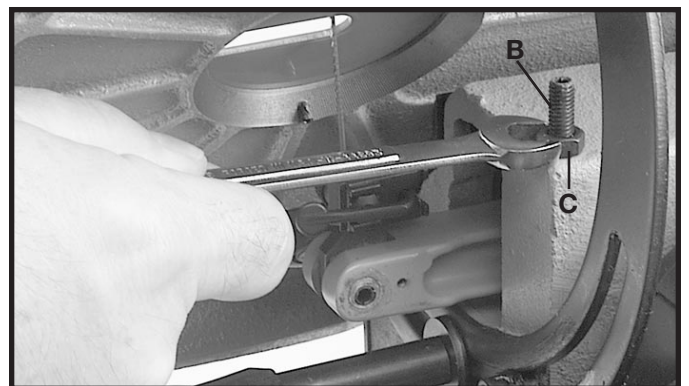

Fig. 14
3. If the table is not at 90° to the blade, adjust the table making certain screw (B) Fig. 14, contacts bottom of table surface when table is 90° to the blade. To make this adjustment loosen nut (C), turn screw (B) in or out the desired distance and tighten nut (C).